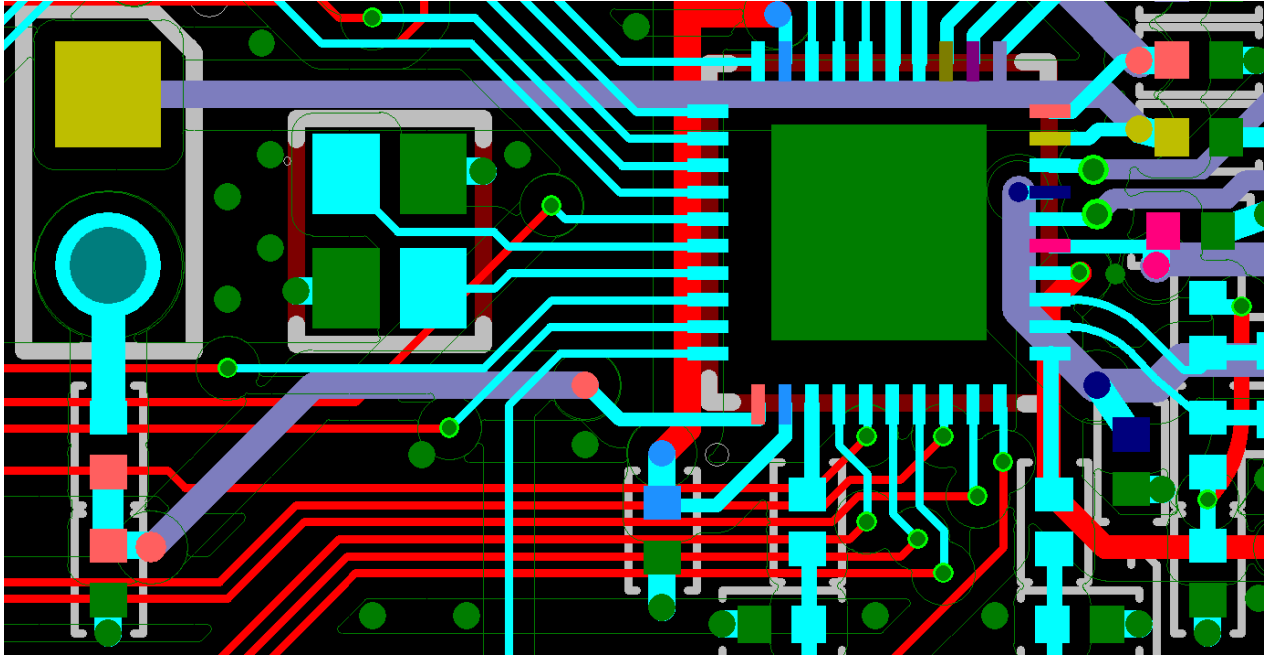

Figure 11 - AVDD1P trace Layout Recommendation for 4-layer ATMx20x PCB with Single-sided SMD Components
- In ATMx20x-based PCBs with the 5x5 mm QFN, the AVDD1P trace can be routed as done in the EVBs, as shown in Figure 11 (see lavender trace). Notice also that this trace is routed around the crystal to avoid cutting through the crystal traces and picking up crystal noise.